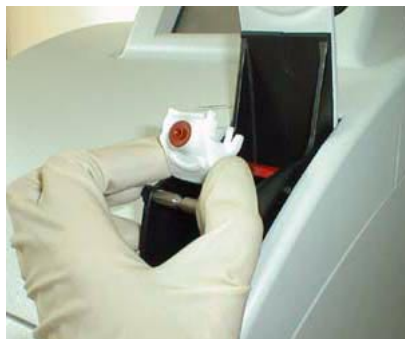

Fig. 14
- Place the new fill port holder (with integrated fill port) over the needle. It is easier if you turn the holder around so that the bottom side is showing on top (see Fig. 14).